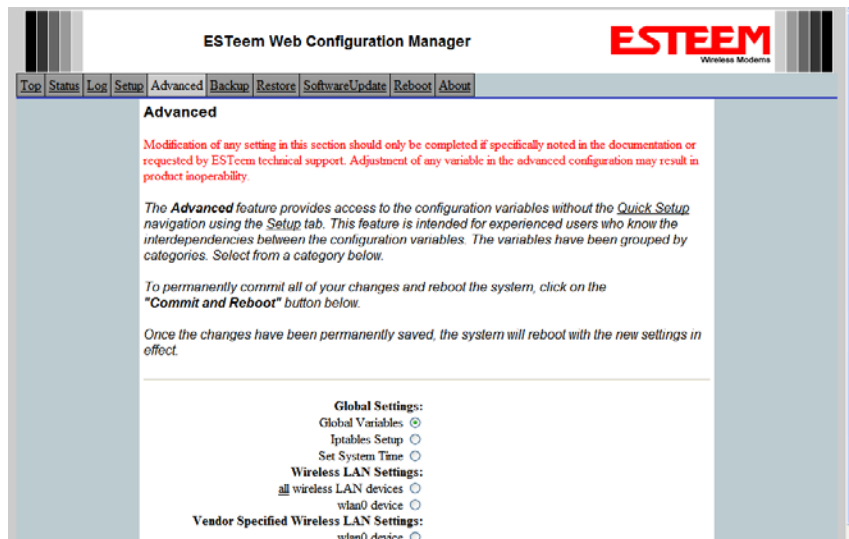

Figure 3: Global Variables Screen
1. The Modem ID field can be adjusted under the *Global Variables* of the Advanced Menu tab. Select Global Variables and press the *Next* button. Figure 3 will be displayed.